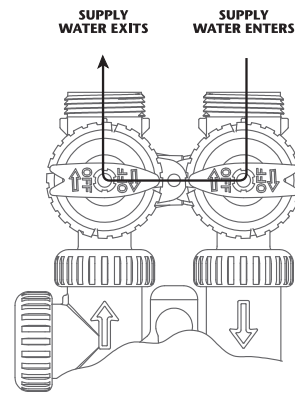

Figure 2
2. **BYPASS POSITION:** The inlet and outlet handles point to the center of the bypass. The system is isolated from the water pressure in the plumbing system. Untreated water is supplied to the building (**Fig. 2, page 4**).